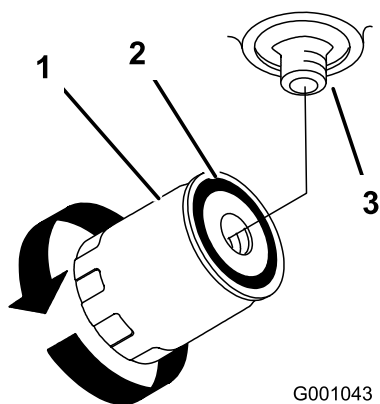

Figure 50
- Remove the old filter and wipe the filter adapter gasket surface clean (Figure 50).
- When the hydraulic filter is full, turn the oil filter clockwise until the rubber gasket contacts the filter adapter, then tighten the filter an additional 1/2 turn (Figure 50).